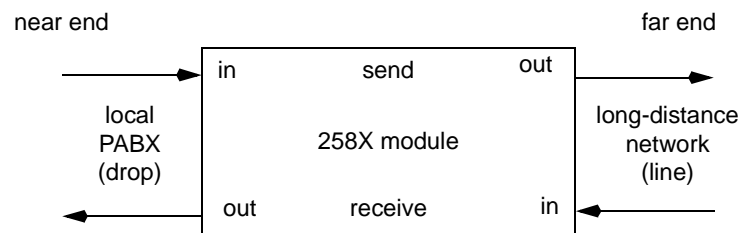

Figure 6-1 258-to-facility orientation
- See Figure 6-1 for an orientation illustration.
6.1 PCM alarms are indicated by front panel LEDs. They are grouped into two categories, send-in (drop) and receive-in (line). See Figure 6-1 and Tables 6-1 and 6-2 for alarm reference information.